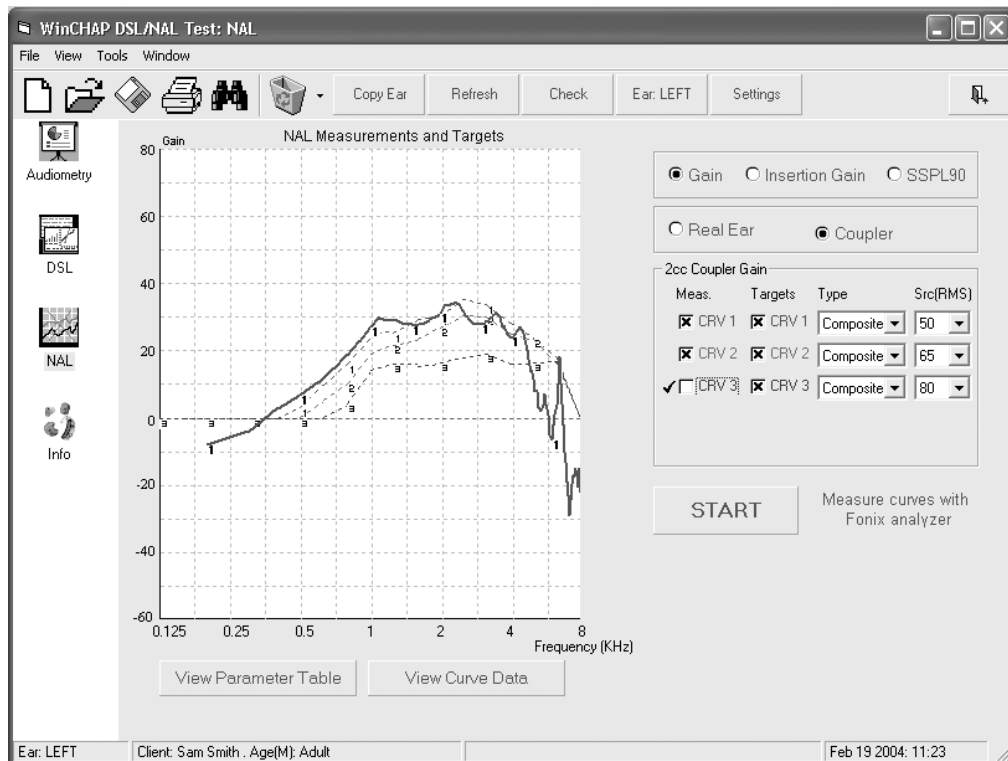

Figure 6.4.2—NAL window with measurements
8. Repeat steps 3-7 to take any other desired measurements. WDRC aids are usually measured at 50, 65, 80, and 90 dB SPL. Linear aids are generally only measured at 65 and 90 dB SPL. See Figure 6.4.2.